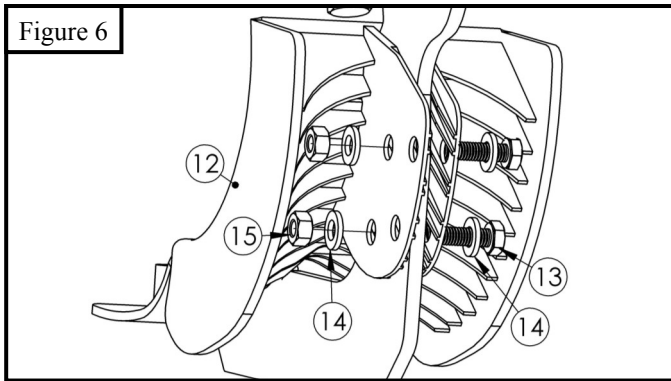

Figure 6
4. Locate (1) plastic bracket cover (Item 12) and loosely secure it to the (6) brackets using the provided hardware: (2) M6 hex head cap screws, (4) M6 flat washers, and (2) M6 nylon nuts. Repeat for every bracket. See **Figure 6**.